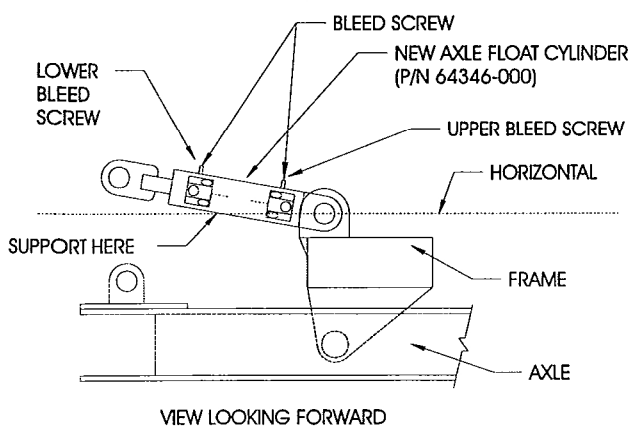

Figure 3
5. Elevate rod end of axle cylinder such that the axle cylinder lower bleed screw is above horizontal. Use suitable device to support rod end of axle cylinder. See figure 3.
6. Open lower bleed screw on axle cylinder. See figure 3.
8. Open upper screw. See figure 3.